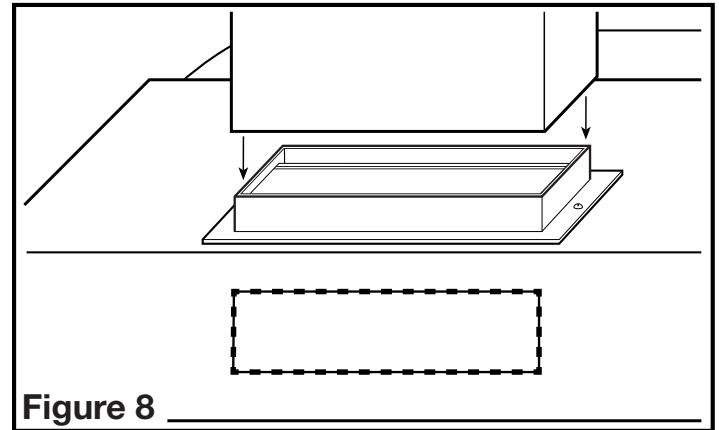

Figure 8
- Connect the ducting to the hood's duct collar and damper. Ensure duct joints and exterior penetrations are sealed with caulk or other similar material to create an air-tight path to minimize building heat loss or gain and to reduce the potential for condensation. Place/wrap insulation around duct and/or fan in order to minimize possible condensation buildup within the duct, as well as building heat loss or gain (Figure 8).